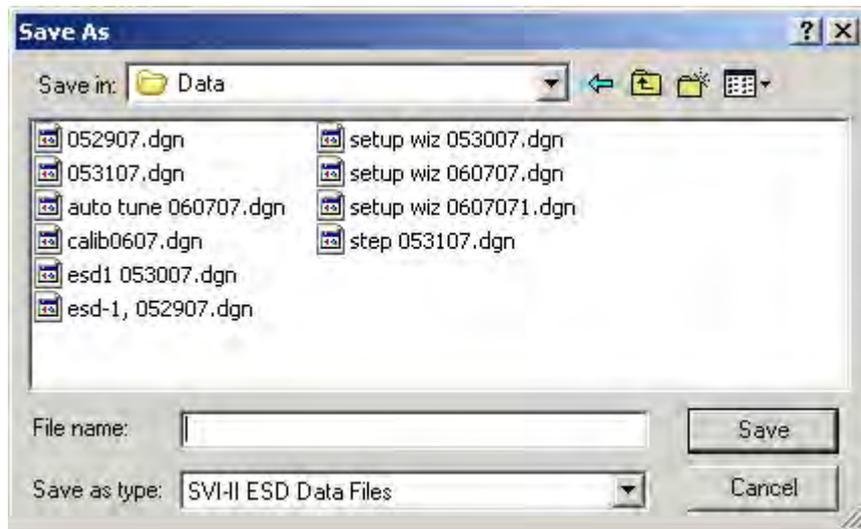

Figure 224 Selecting a Folder for Saving File
2. Locate the folder in which to save the file, enter a name and click **Save** (Figure 224).